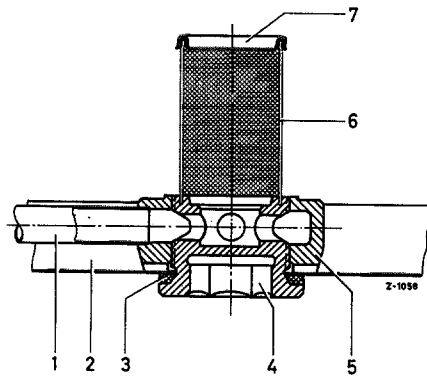

Fig. 47-1/8
On recent cars of Model 220 SE Cabriolet and Coupé the fuel tank vent line is located on the left side of the fuel tank. If complaints are received about fuel leakage from the vent line on older cars of Models 180 to 220 SE (except 190 SL) the vent line can be subsequently installed as shown in Fig. 47-1/6.
A sealing ring (7) has been installed in the screw plug (4) in the upper part of the screen jacket (6). When the screw plug is screwed in, the lip of the sealing ring is pushed over the fuel suction line (1) and provides a seal against the screen (Fig. 47-1/7).